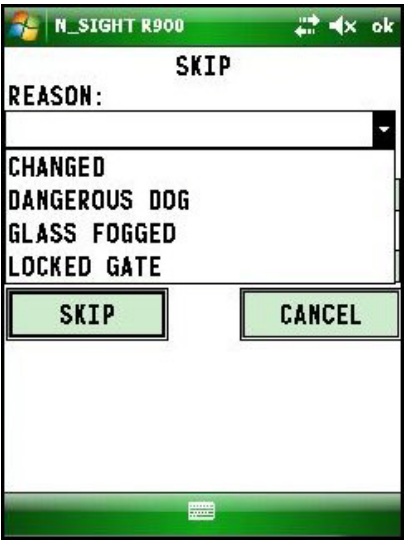

Figure 6.6 N\_SIGHT R900 Skip Order Reason Codes
- 2 Click the drop-down selection list as illustrated in Figure 6.6 to choose the appropriate reason code.